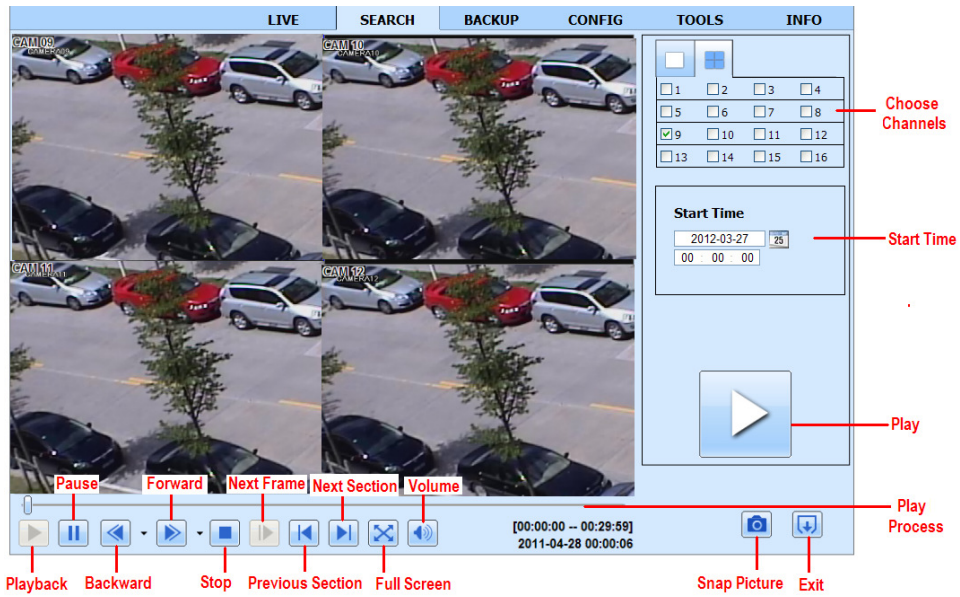

Fig 7-7 Playback by Event Search
Step2: The highlight date in the area② indicates recorded data. Select the date in the area ② and record channels in area③ .
Step 4: Set the Start time and display mode in the area① as required.
Step 6: Click the relevant buttons in the interface for operation, like FF, pause, change channel mode, research, etc. Please refer to Fig 7-7: